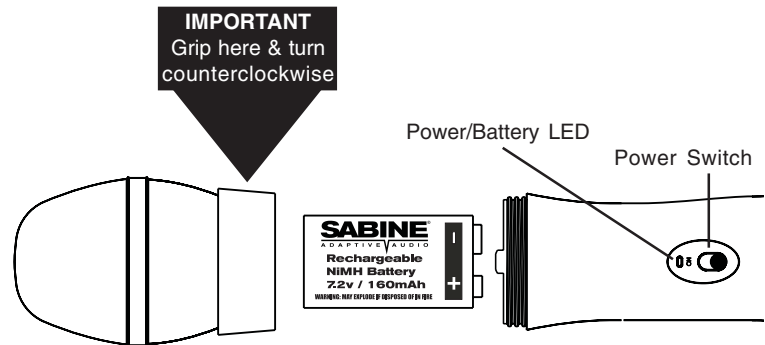

Figure 5p - Handheld Microphone Battery Replacement
1. Grip the microphone capsule as shown in Figure 5p. Unscrew the top of the microphone (counterclockwise direction).
2. Insert a 9-volt battery into the battery compartment according to the correct polarity as shown in Figure 5p. Note that inside the microphone body, and at the bottom of the battery cavity, the hole for the positive contact is larger than the hole for the negative contact. The moment the battery touches the terminals inside the battery compartment, the